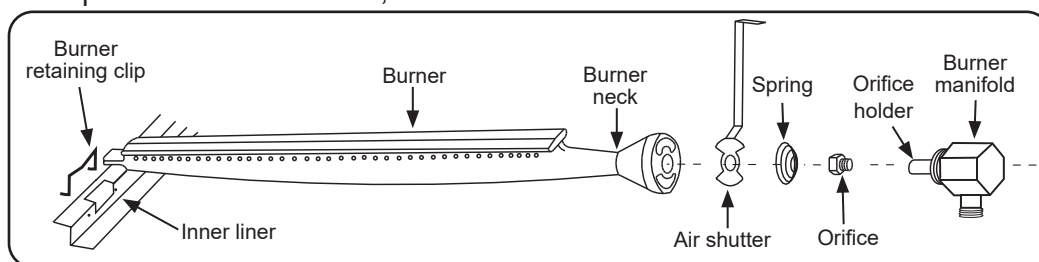

Fig. 38-4 Burner components diagram
3. Locate and remove the burner retaining clip from behind the burner using a flat head screwdriver (see Fig. 38-4).
- a. Install the air shutter spring, then the air shutter over the orifice holder fitting in the order and position as shown in Fig. 38-4.